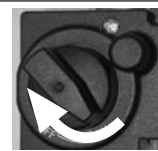

Fig. 5-3
- a. Turn the flame height control knob towards **OFF** (clockwise ↷) until fully reaching stop (Fig. 5-3). The pilot flame will remain lit.